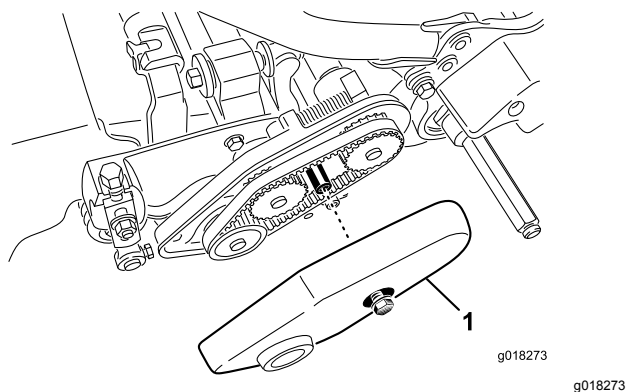

Figure 47
2. Loosen the flange bolt that secures the belt cover and remove the belt cover to expose the belt (Figure 47).